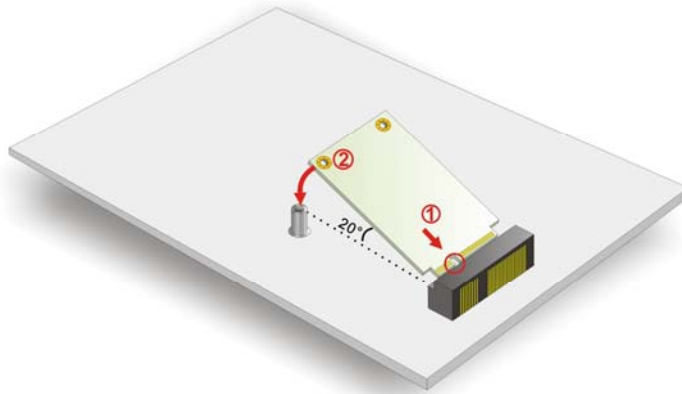

Figure 3-4: Inserting the PCIe Mini Card into the Socket
Step 3: **Insert into the socket at an angle.** Line up the notch on the card with the notch on the connector. Slide the PCIe Mini card into the socket at an angle of about 20° (**Figure 3-4**).